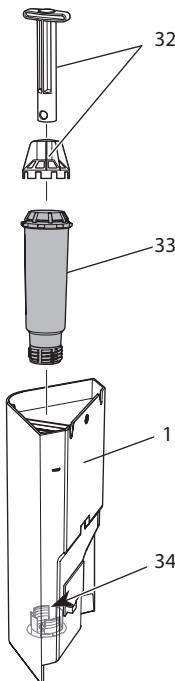

Fig. 18: Screwing/Unscrewing the water filter
7. Insert a new filter in the water tank (see *Fig. 18*).
2. Remove the water filter (see Fig. 18).